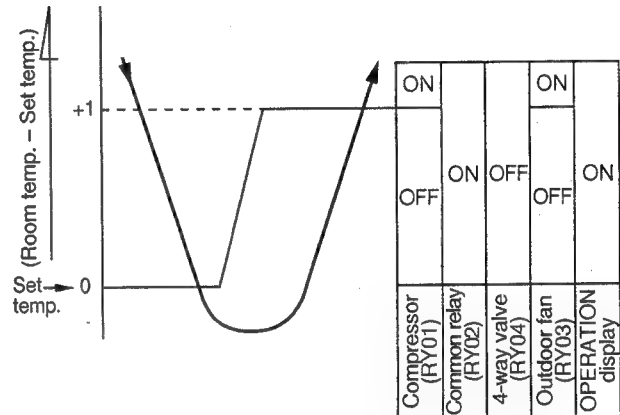

Fig. 7-2-1
(1) Compressor, 4-way valve, outdoor fan and operation display are controlled as shown in Fig. 7-2-1.